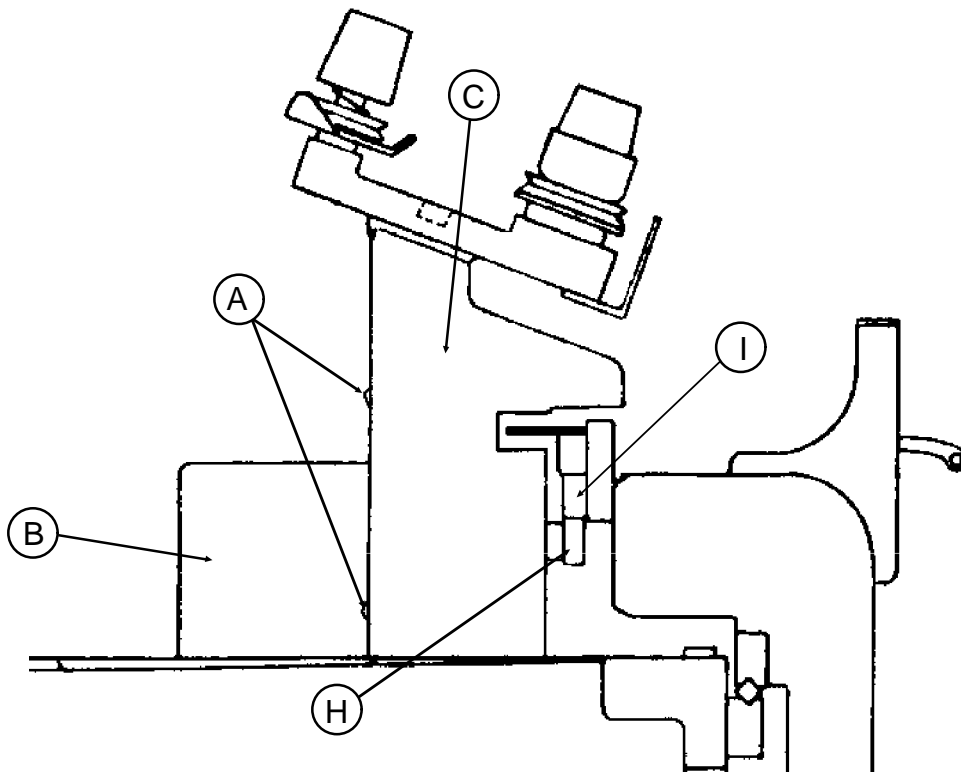

Figure 1
2. Remove the four Retaining Screws (Figure 1-A) holding the Color Change Motor Cover (Figure 1-B) to the Color Change Tower (Figure 1-C).
8. Lift up on the front of the Motor and make sure that there is a good mesh between the Color Change Motor Gear (Figure 1-H) and the Drive Rack (Figure 1-I).